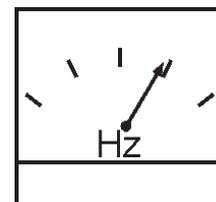

Figure 46. Frequency Meter (Hz)
- The generator's frequency meter (Figure 46) should be displaying the 60 cycle output frequency in **HERTZ**.